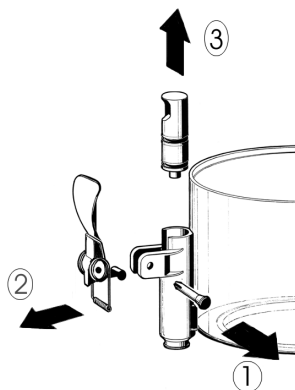

figure 1
shown (see fig. 1)
- 3** Reassemble the faucet assembly on the container in the opposite way to which it was dismantled (see fig. 1).